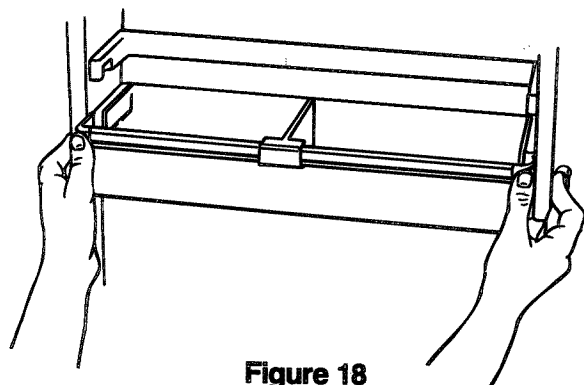

Figure 18
- d. To install, slide bucket into grooved area until tabs lock into place. See Figure 18.